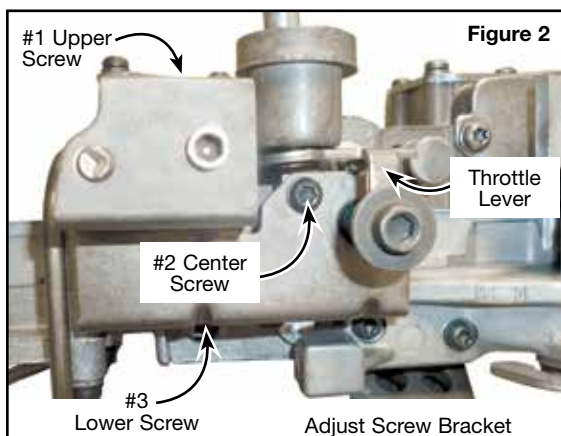

Figure 2
- g. Remove the center screw from the adjusting screw bracket. Temporarily remove one of the long screws holding the three valve body castings together and install it in place of the center screw (**Figure 2**). This will help to hold the bracket in place when removing the upper and lower screws. Remove the upper and lower bracket screws while holding the adjusting screw bracket. Remove the center screw. Save the OE switch valve spring, line pressure screw and adjusting bracket for reassembly. Discard the OE pressure regulator spring.